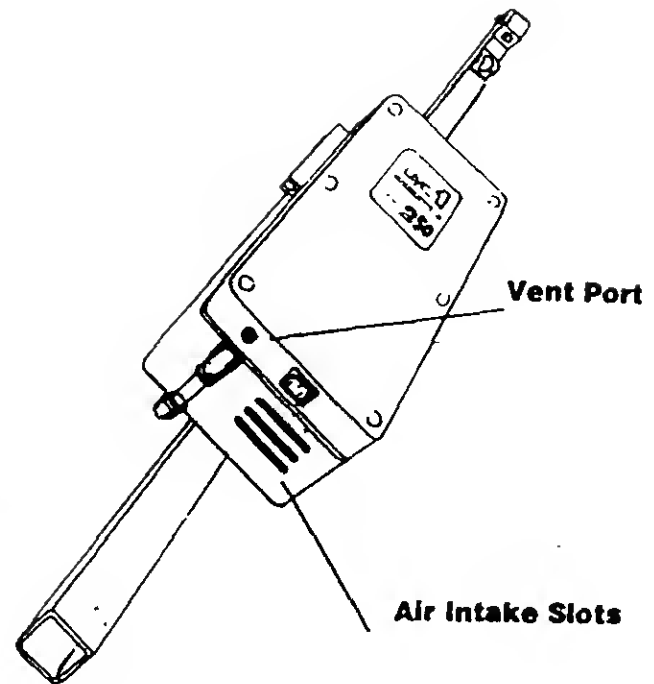
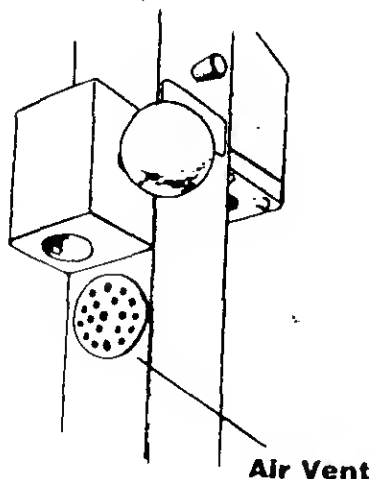

Figure 3
Figure 4
- B. Fill with 1.3 liters of Distilled Water. Note: A water reservoir vent port exits at the bottom of the Power Module at the location shown in Figure 3. This vent port also serves as an overflow tube. An easy way to be sure the reservoir is full is to place a cup under this vent port and fill the reservoir until water begins to exit the port.
This unit is cooled by convection. Be sure the air intake slots on the bottom of the cabinet (refer to Figure 3) and air vent below the I.V. Pole mount (figure 4) are not blocked.